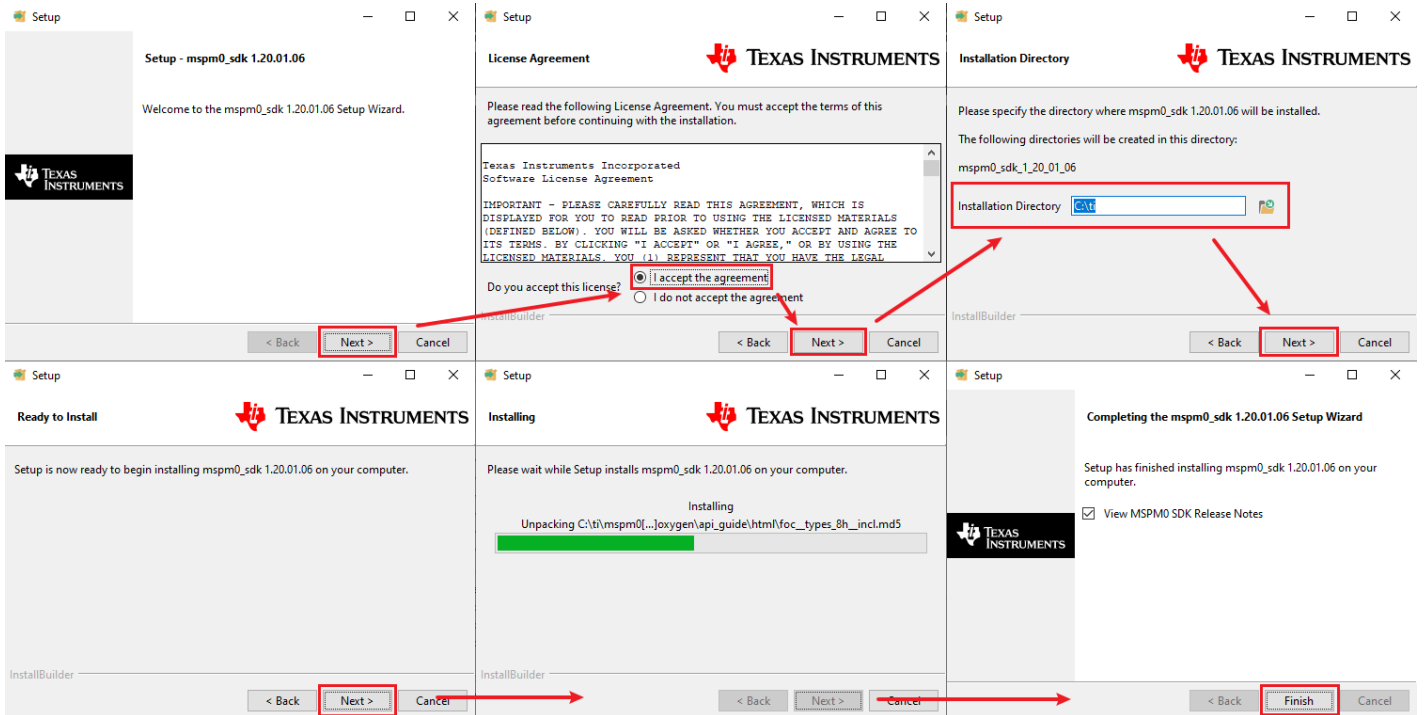

Figure 3-5. MSPM0-SDK Install Step-by-Step
3. After downloading, follow the steps in Figure 3-5 to finish installation.